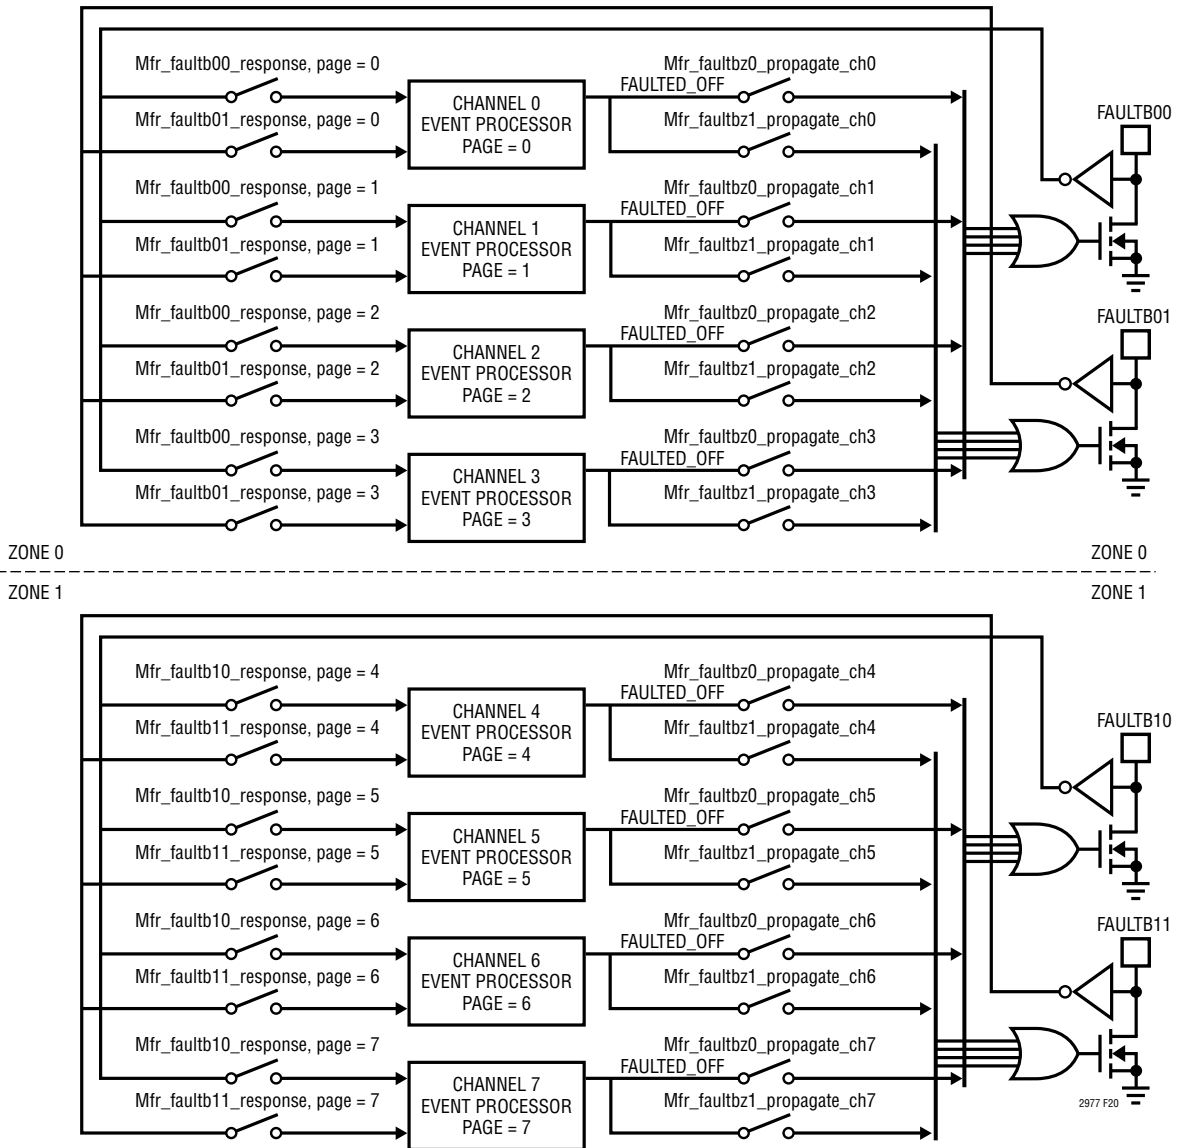

Figure 20. Channel Fault Management Block Diagram
Multichannel fault management is handled using the bidirectional FAULTBzn pins. The “z” designates the fault zone which is either 0 or 1. There are two fault zones in the LTC2977. Each zone contains 4-channels. Figure 20 illustrates the connections between channels and the FAULTBzn pins.
- PWRGD reflects the status of the outputs that are mapped to it by the MFR_PWRGD_EN command. Figure 20 shows all the PWRGD pins connected together, but any combination may be used.